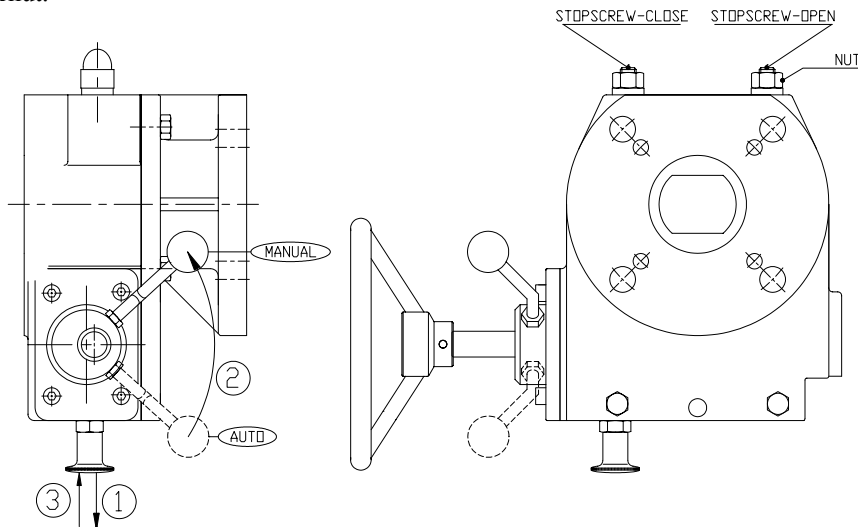
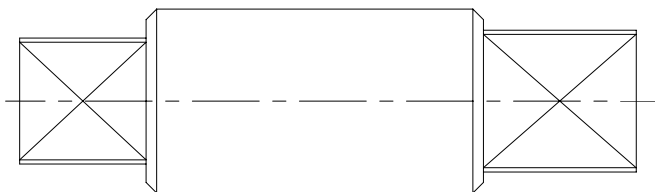

Figure 3 : ILG/D gearbox stopscrew adjustment
Figure 4 : Driveshaft ILG/D
2. Put the gearbox in the manual-mode by turning the handle 90 degrees counter clockwise (see 'operating' and/or figure 4: 1->2->3)
- Open the valve by turning the handwheel counter-clockwise. When the fully open position can not be achieved, loosen the stopscrew-open (see figure 3). Continue turning the handwheel until the valve is fully open.
- Pull the knob outwards (1) and turn the handle (clockwise) until knob falls back into its locked-position (3).
- position the driveshaft (see figure 4) in top of the gearbox.